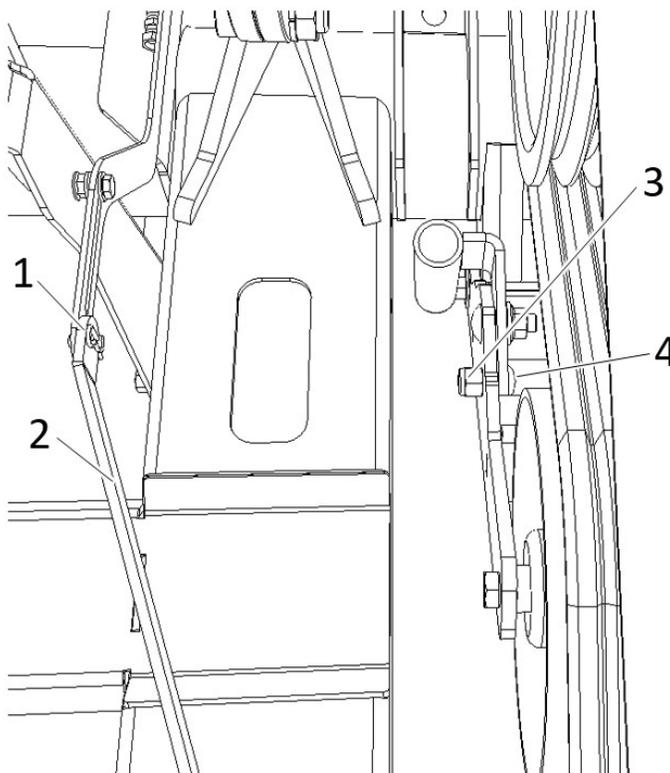

Figure 35 Cylinder locking arm and tensioner locking bolt
STEP 2 - FIGURE 35
Install the cylinder lock lever (item 2) and insert the locking pin (item 1). Install the tensioner locking bolt (items 3 and 4). (Reverse from Step 2 – Figure 35 Cylinder locking arm and tensioner locking bolt).